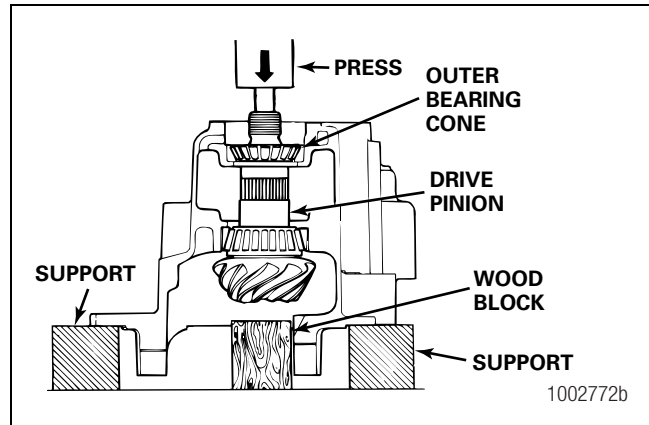

Figure 5.11
1. Place the carrier into a press so that the threaded end of the pinion is UP. Place supports under the flange of the carrier so that the carrier is level. Place a wood block under the head of the pinion. Figure 5.11.
2. Press the drive pinion out of the outer bearing cone. Remove the cone. Figure 5.11.